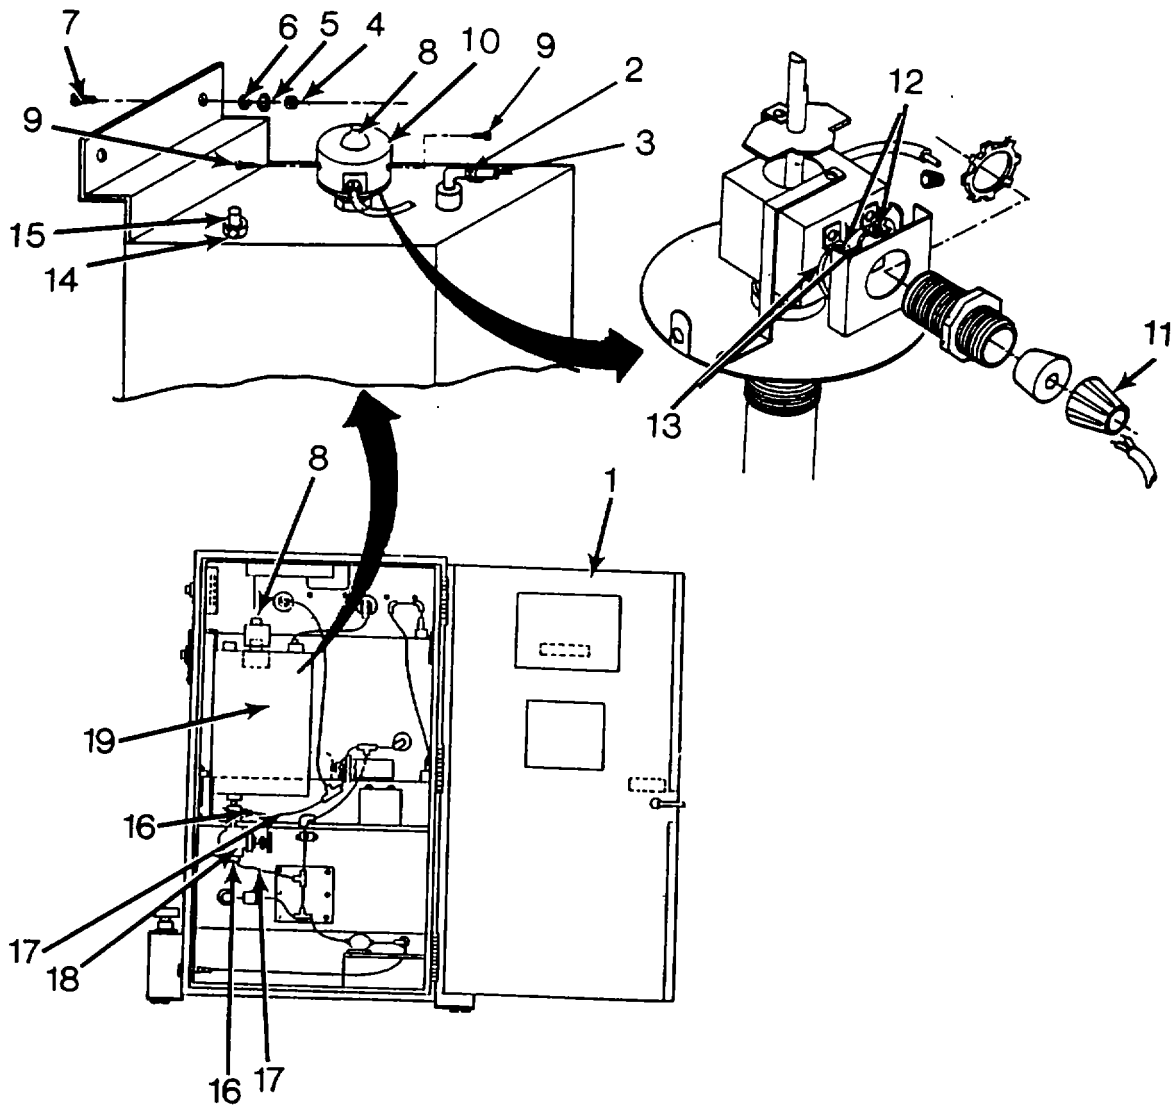

Figure 4-24. Replace Water Heater
- (6) Solder wires (4) and remove tags.
- (7) Install fuse (1) and close rear door (3).
- (8) Turn on power and test operation.
h. Repair by replacing Water Heater. (Figure 4-24.)
- (1) Drain fresh water tank. Refer to paragraph 2-14.